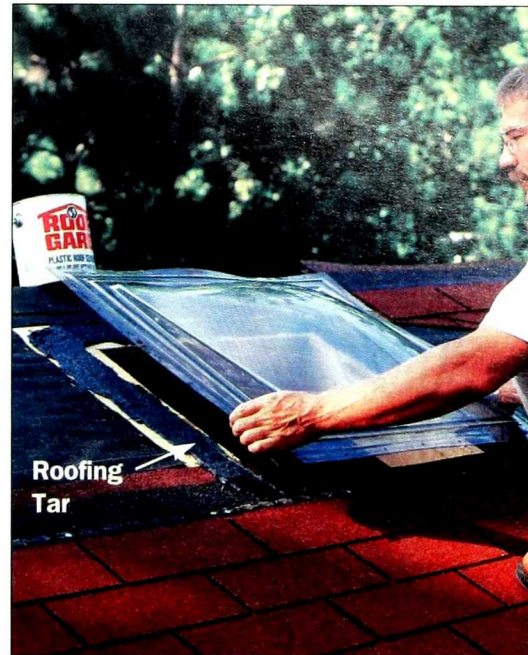

Figure 16: Install skylights, embedding them in roofing tar. Skylights located near the peak of the roof let in the most light.
- Skylights are optional, but brighten the interior (Figure 16). Inexpensive plastic skylights are available at most home centers. It will take about an extra hour to install each skylight and shingle around it. Skylights let in plenty of heat, too, so consider installing vents at gable ends for cooling.